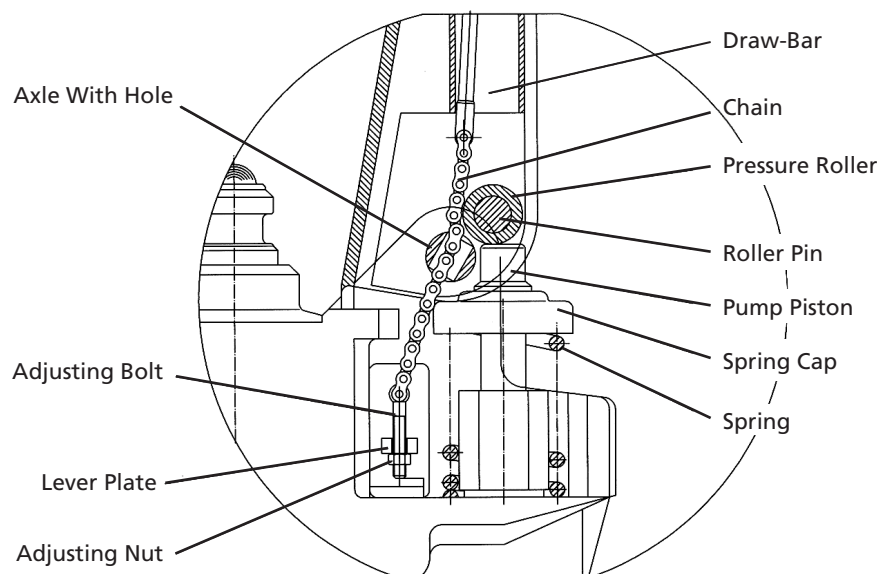

Figure 3
- Set control handle in "LOWER" position then pass the adjusting nut adjusting bolt and chain through the hole of the axle (See Figure 3).